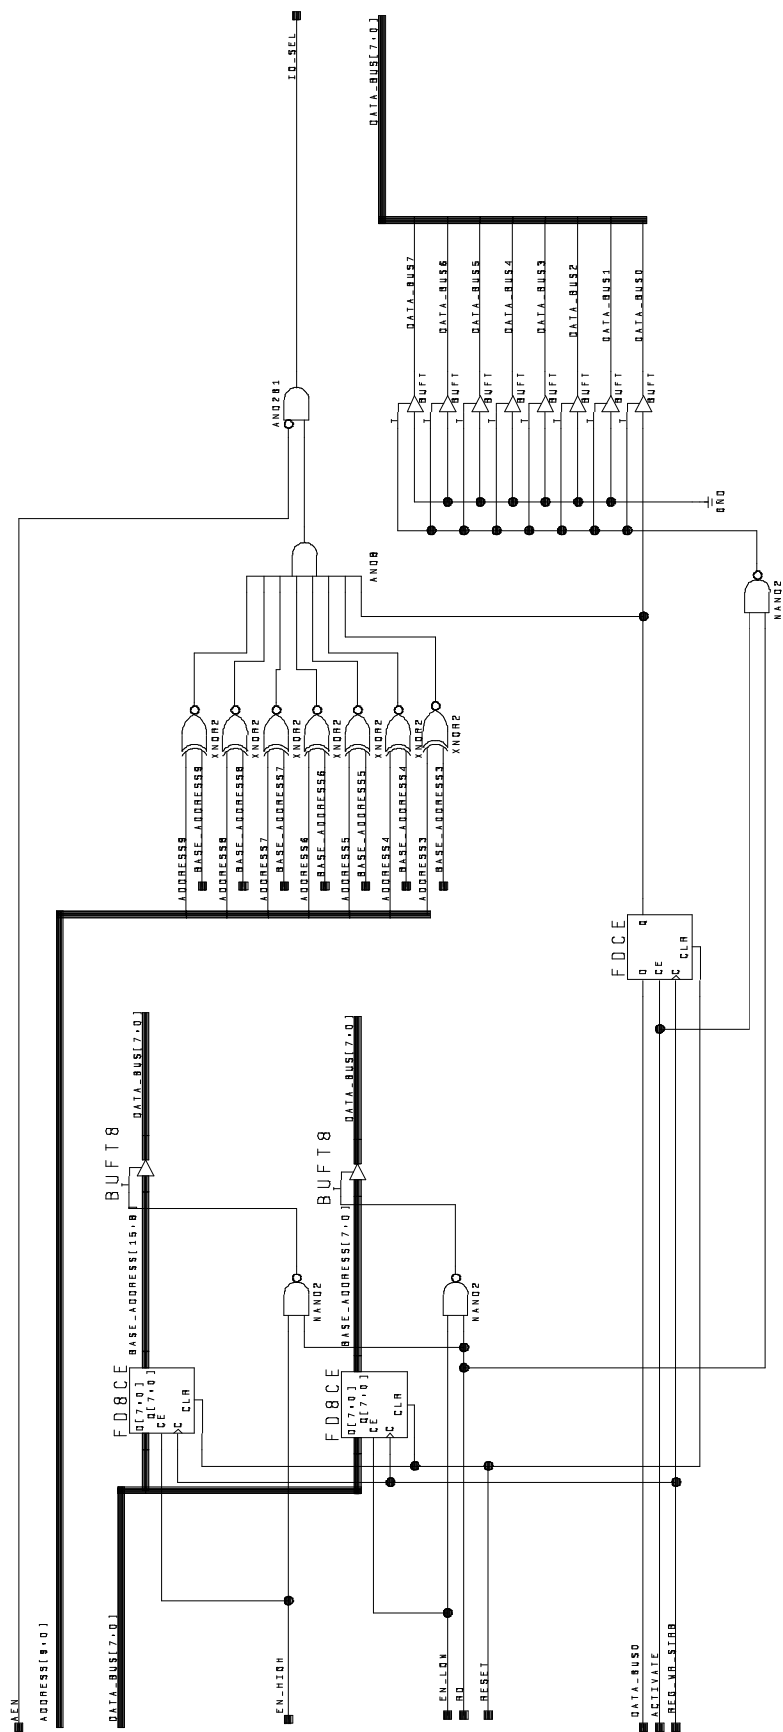

Figure 11—I/O Range Selector Schematic (IO\_DEC.1)
- **I/O Space Configuration** — I/O space resource use is programmed by writing the I/O base address[15:0] to the I/O port base address registers. The logic for the base registers is shown in Figure 11. If a logical device indicated it uses 10-bit I/O space decoding, then bits [15:10] of the I/O address are not implemented on the card. If no I/O resource is assigned, the I/O base address registers must be set to zero.